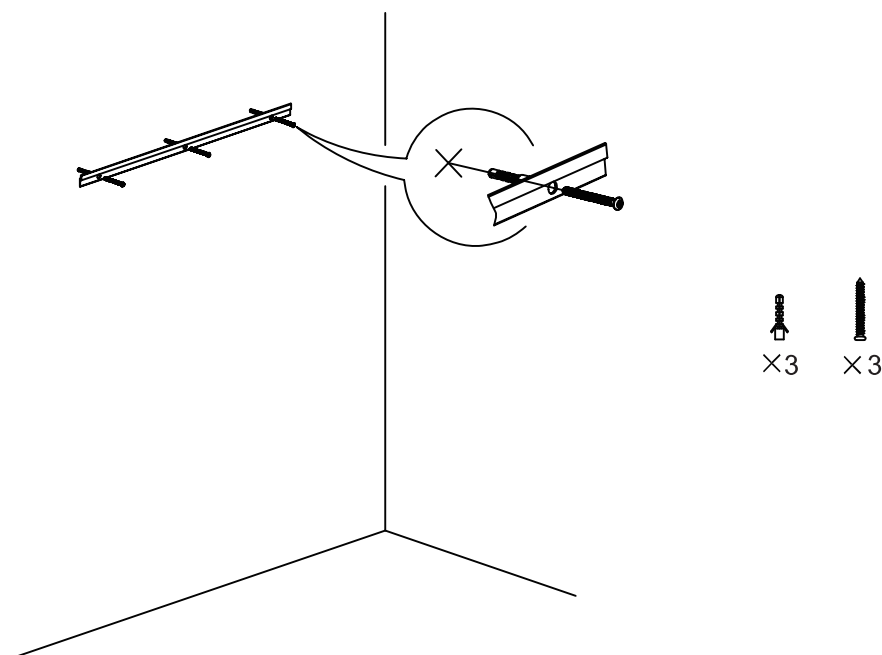

Fig. 2
1.4 Knock the expansion plugs into the holes in the wall with a hammer, and then tighten the screws with a screwdriver to fix the bar, and calibrate the level with a spirit level (Fig. 2).